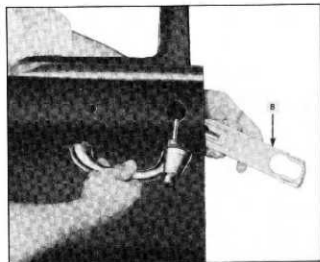

Fig. 1—Removing Outside Handle
2. Pull retainer "B" out until handle can be removed (fig. 1).